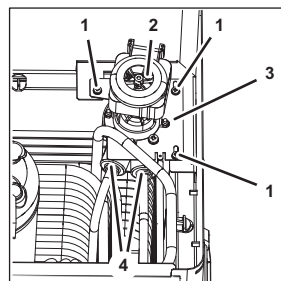

Figure 50
2. Disconnect the lines of the circulation pump (Figure 50/2) from the push-in fittings (Figure 50/4).
3. Remove the fastening bolts (Figure 50/1) from the circulation pump mount (Figure 50/3).
4. Lift the circulation pump mount (Figure 50/3) with circulation pump (Figure 50/2) up and out of the unit.
8. Connect the lines of the circulation pump (Figure 50/2) by means of the push-in fittings (Figure 50/4).
9. Position the circulation pump mount (Figure 50/3) with circulation pump (Figure 50/2) within the unit.